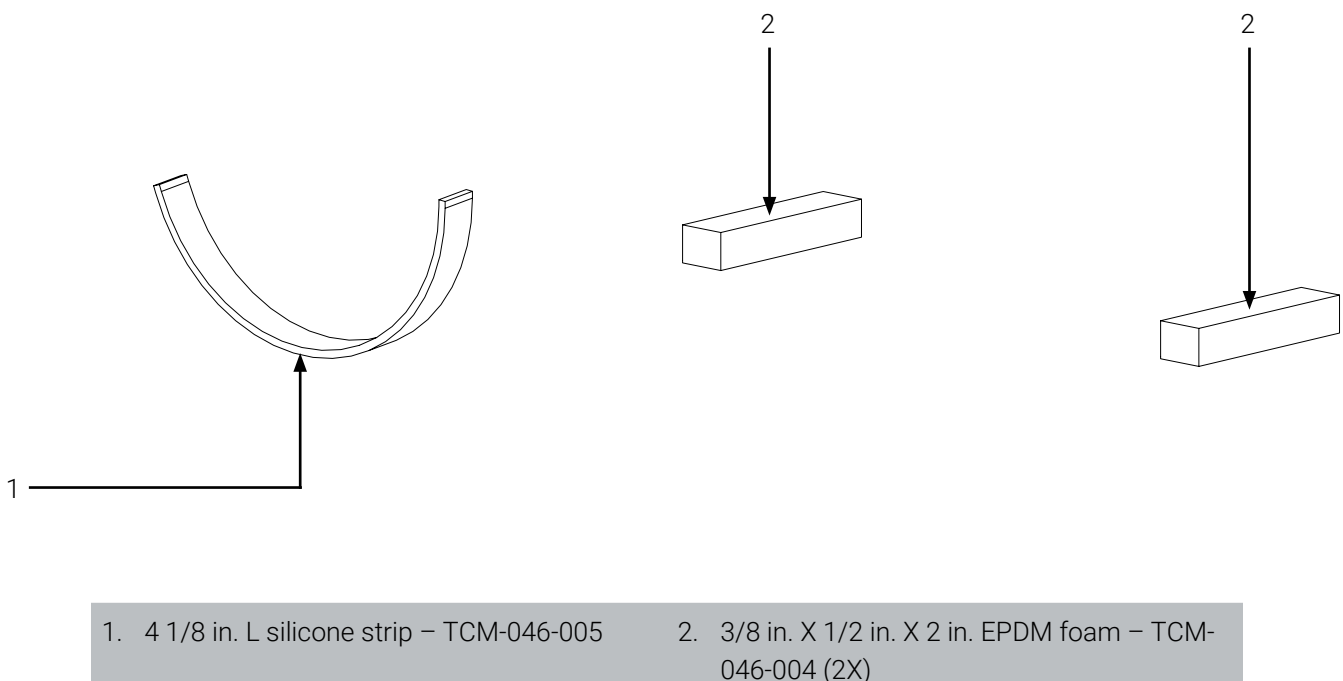

Figure 20: Replacement parts
1. Identify the replacement parts included in the foam kit (Figure 20).